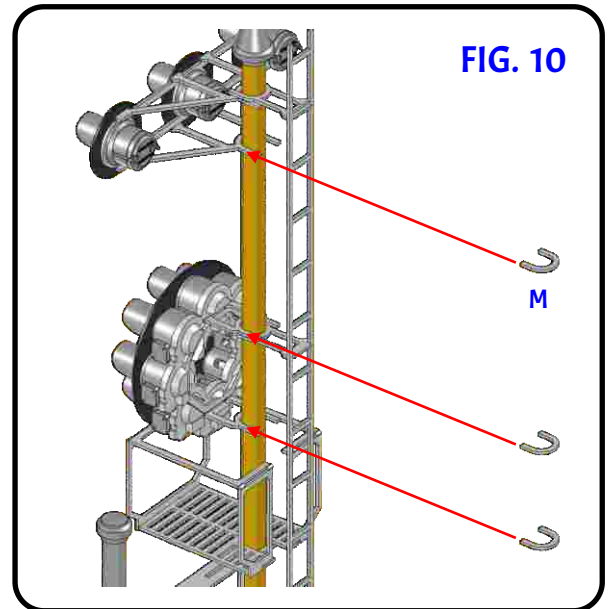

FIG. 10
BRACKET BACKS (M) ARE OPTIONAL BUT CAN BE APPLIED TO SIMULATE A COMPLETE BRACKET MOUNT (FIG. 10).